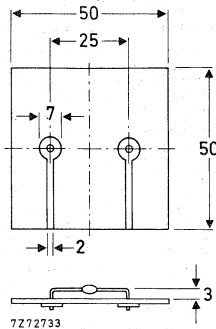

Fig. 2 Mounted on a printed-circuit board.
Average forward current (switching losses negligible up to 200 kHz) square wave, $\delta = 0,5$ $T_{tp} = 85\text{ }^\circ\text{C}$ ; lead length = 10 mm $T_{amb} = 60\text{ }^\circ\text{C}$ ; Fig. 2
2. Thermal resistance from junction to ambient when mounted on a 1,5 mm thick epoxy-glass printed-circuit board; Cu-thickness  $\geq 40\text{ }\mu\text{m}$ ; Fig. 2